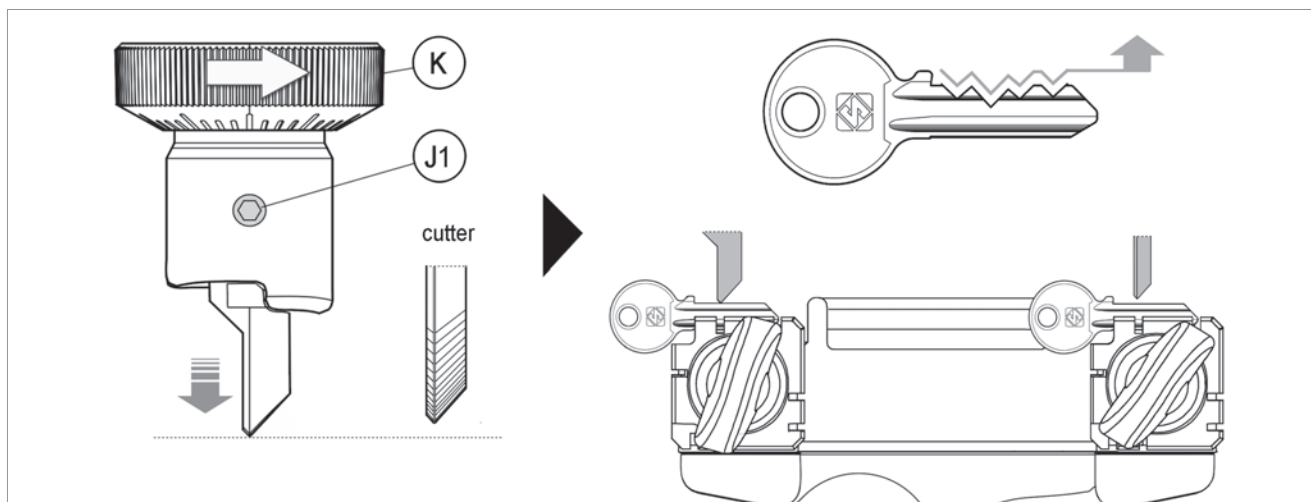

Fig. 18
- b) turn the ring nut (K) clockwise to advance the tracer point (shallower cuts) (Fig. 18).